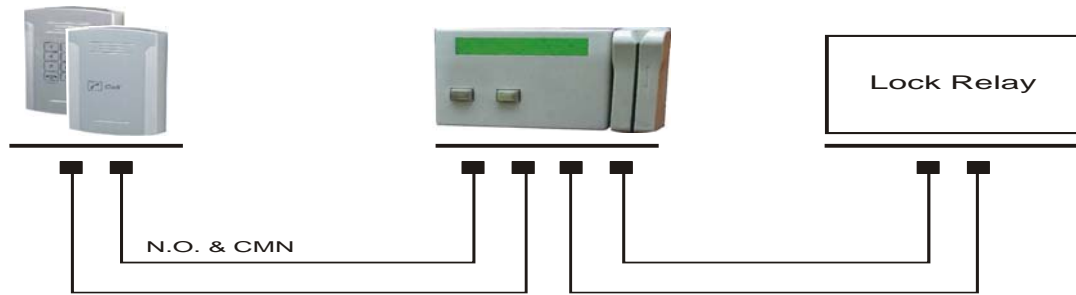

Figure 6-2. Access Control – Controlling Lock Relay
For this installation, the access-control device “**Bypass Switch**” (SW) wires are connected to the “**N.O.**” and “**CMN**” terminals of the Pantel/Pancode. The door-lock relay wires are connected to the access-control device (see Figure 6-2).